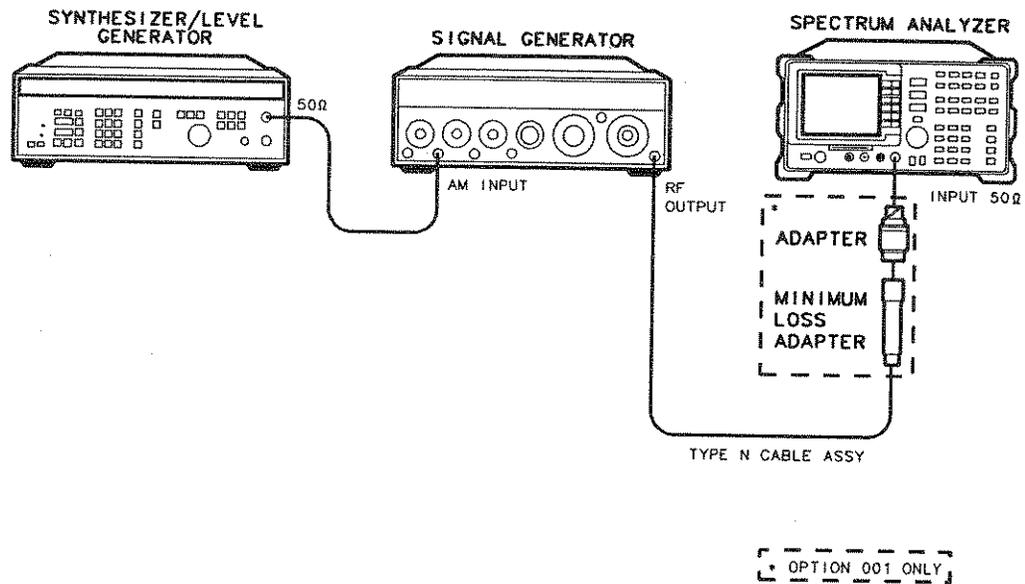

Figure 3-25. Fast Sweep Time Test Setup, Option 101
5. Connect the equipment as shown in Figure 3-25.